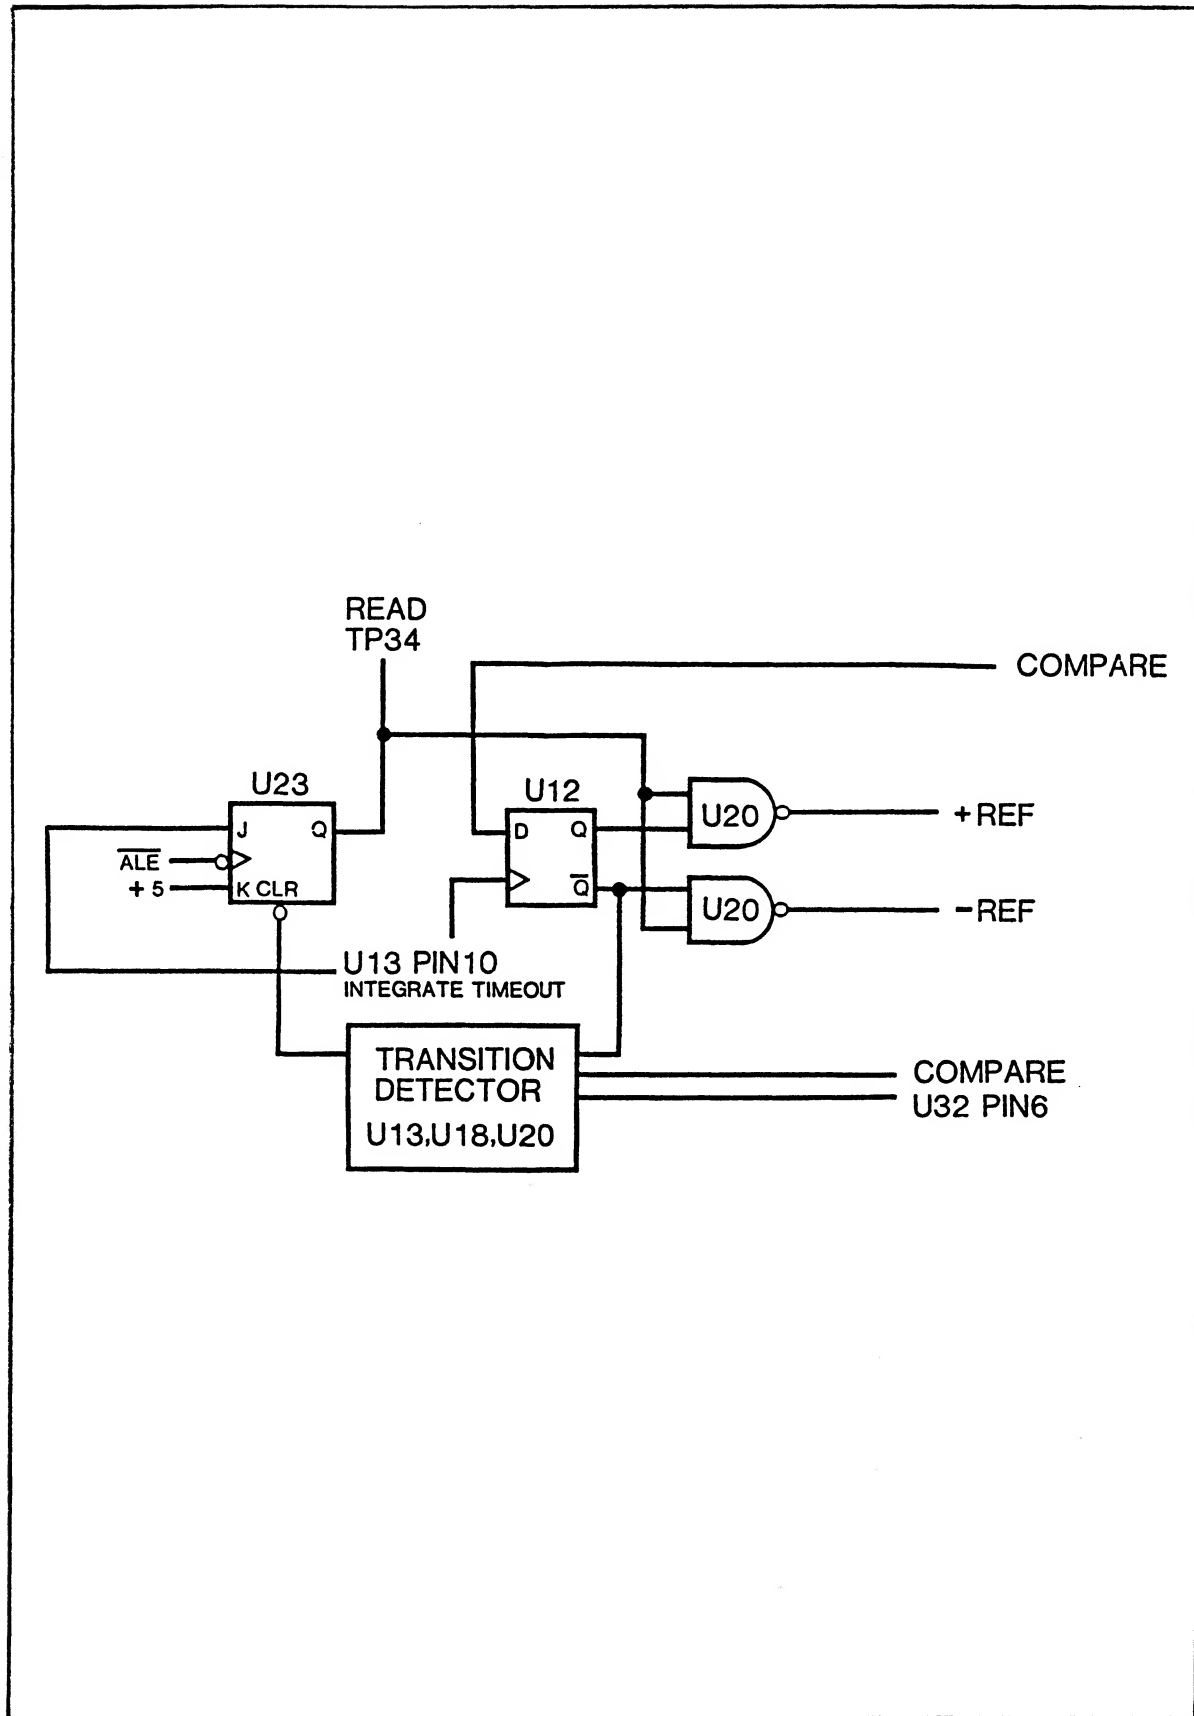

Figure 161-5. Read Timer Simplified Schematic and Timing Diagram
Refer to Figure 161-5 for a simplified schematic and timing diagram of the read timer. The timeout signal from the integrate timer latches the state of the COMP(H) into U12. U12 selects which reference control line (+REF or -REF) is to be asserted during the read interval. The timeout signal is gated through U40 and U13 to U23 allowing the same ALE pulse that terminates the integrate signal to set U23 and commence the read interval. The READ(H) signal (TP 34) enables U19 and U30 to count the 6 MHz system clock and thereby measure the duration of the read period. U13 and U18 detect the eventual change in comparator state and reset U23 when COMP(H) changes, ending the read interval. U32 and U20 prevent switching glitches from appearing as a comparator transition signal by preventing U23 from being reset until 20 microseconds into the read period. The eventual reset to U23 by COMP also resets U31, inhibiting read timer activity until a subsequent integrate cycle is initiated.